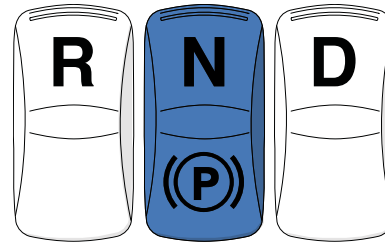

Figure 5 - Drive selector and parking brake button
- Press the (optional) parking brake button on the dashboard (**Figure 5**).